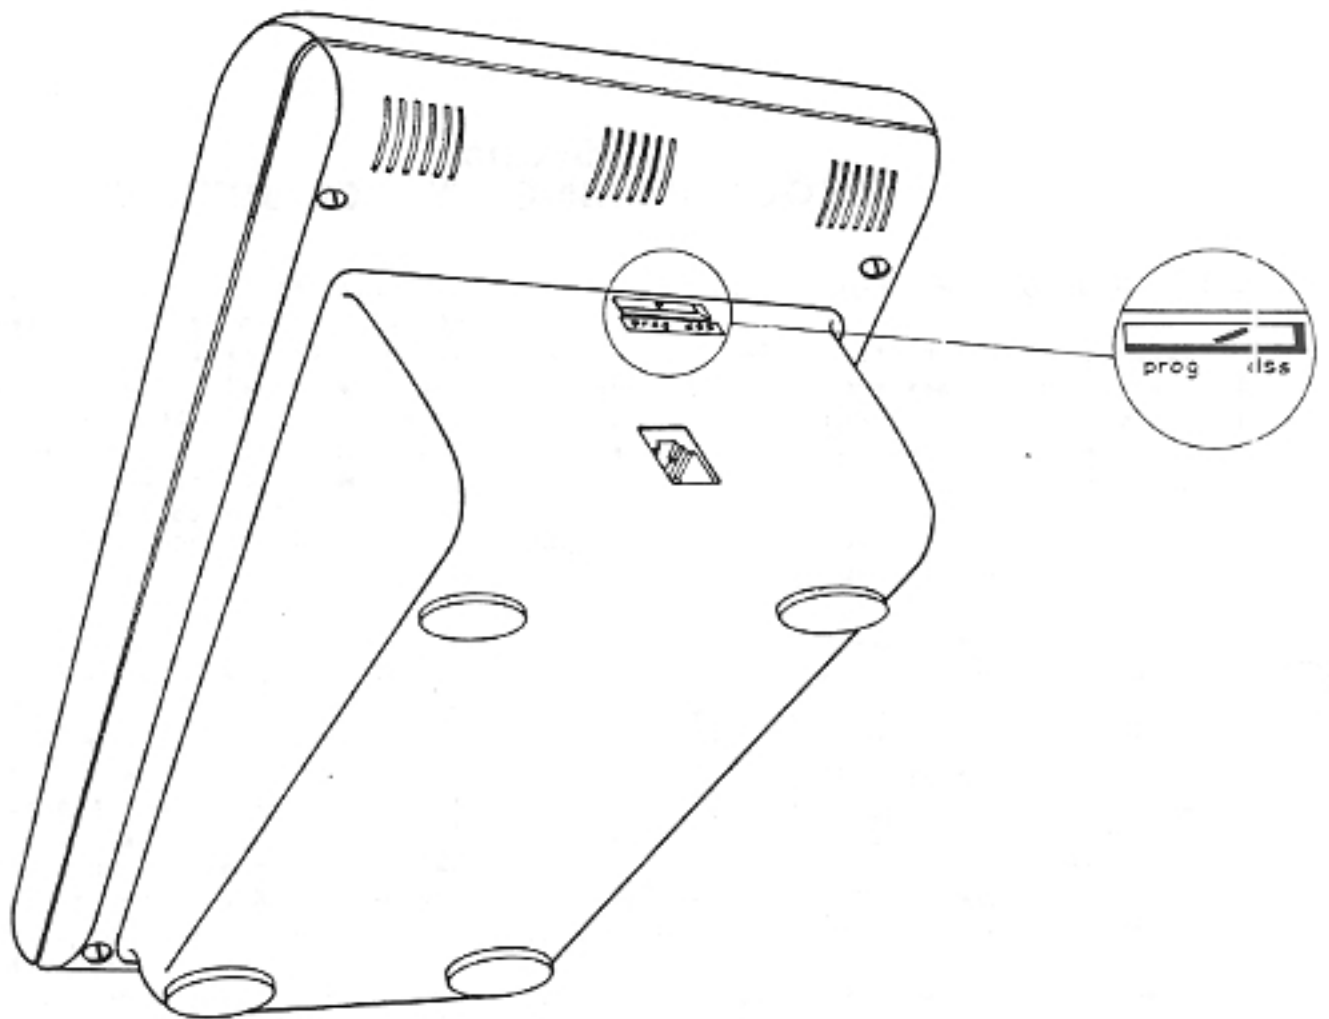

Figure 4-1 Direct Station Select (DSS) console, rear view.
4.1.1 DSS Console. You use the DS console to configure all the features of the key bx. On the rear of the unit (see Figure 4-1) is a slit, with a switch inside the case. Normally, this switch is in the "DSS" position. To turn the console into programmer, insert a screwdriver or other long object into the slit, and push the switch to the "PROC" position.